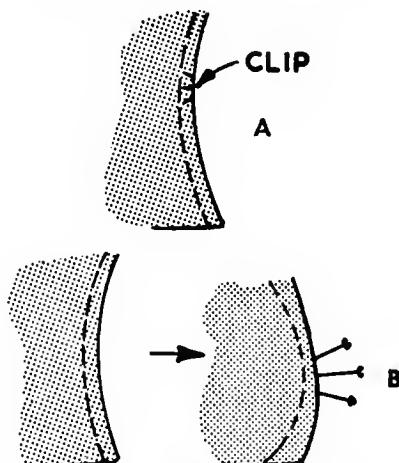

Fig. 178. Making the side seam lie flat.
- a. Clip toward the seam (Fig. 178, a); or
- b. Stretch the inward curve outward with the iron on curves that are not too pronounced. Stretch the seam, pin to the board, dampen, and press (Fig. 178, b).